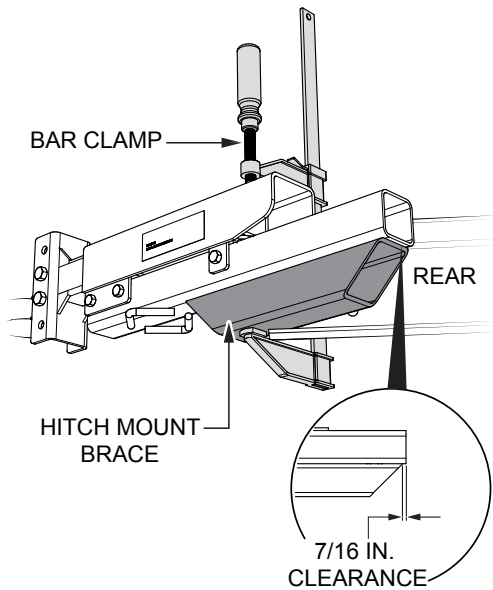

Figure 5. Hitch Mount Brace Placement
4. Position the brace so that 7/16" clearance exists between the trailer frame and the rear section of the brace as shown in Figure 5.
- Once the hitch mount brace has been correctly positioned, secure brace in place with bar clamp as shown in Figure 5.